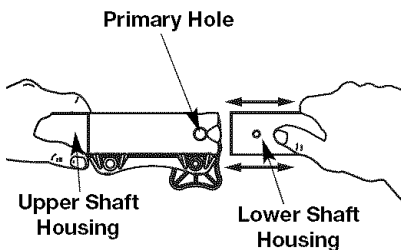

Fig. 6
3. While firmly holding the upper shaft housing, pull the trimmer attachment or other attachment straight out of the Convertible™ coupler (Fig. 6).
2. While firmly holding the trimmer attachment or other attachment, push it straight into the Convertible™ coupler until the release button snaps firmly into the primary hole (Fig. 6).